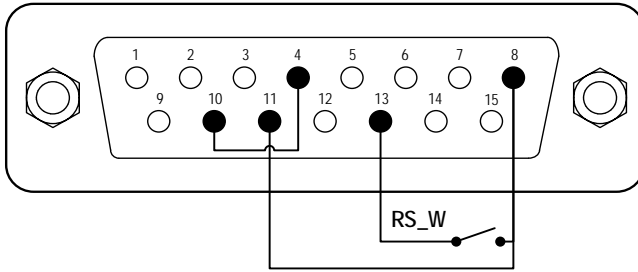

Figure 16. Logic Level Control with Internal 12V Power Source
- 1) Switch the power off. Wire the DB15 connector as shown on *Figure 16* or *Figure 17*, and connect it to the DB15 port on the rear of the pump.